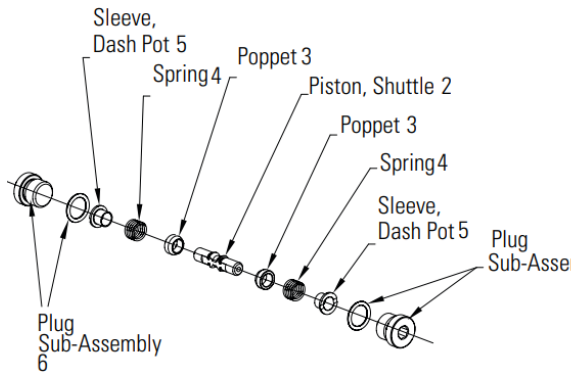

Figure 33 For Close Loop Design
1. Remove sleeve dash pot (Qty 2), poppet (Qty 2) and piston shuttle (Qty1) as shown in Figure 33